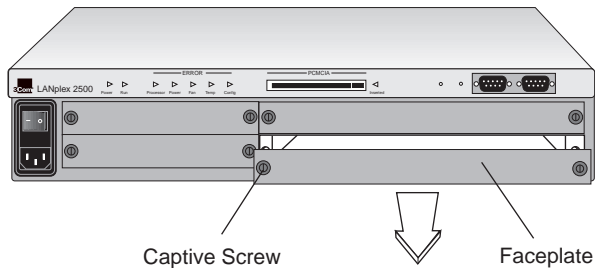

Figure 3-1 Removing Faceplates
- 5 Pull the faceplate away from the system. See Figure 3-1. Save the faceplate for future use.